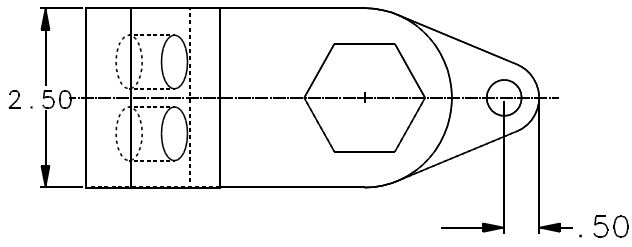

Figure 28
- Figure 28 shows the location of the 2.50 dimension.
116. Click on C1 ( the .25R circle), as shown previously in Figure 28.